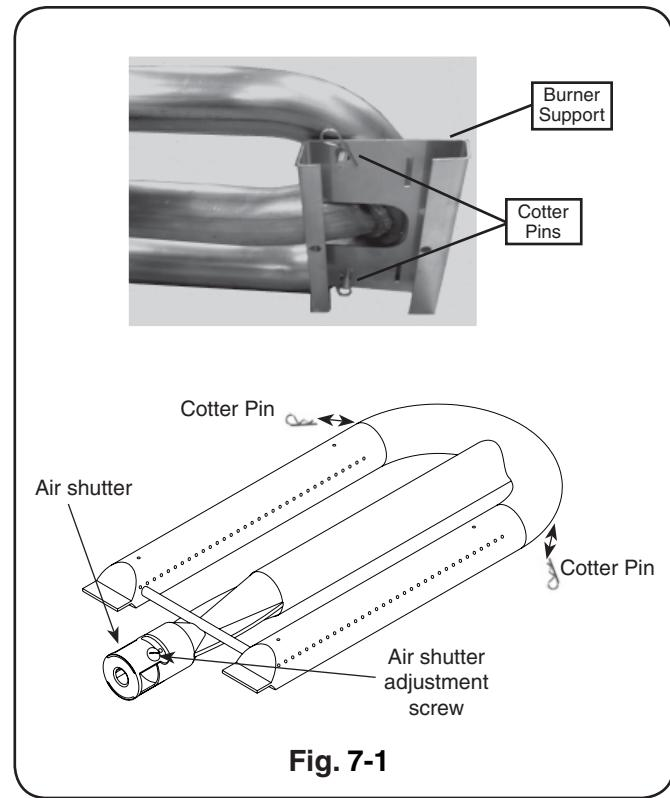

Fig. 7-1
6. Remove the burner by first removing the two (2) cotter pins from under the back of the burner lifting the back of the burner up out of the fire-box by grasping the back and lifting. Then continue to lift the back of the burner up while moving the whole burner back and out so that it pulls away from the orifice. Retain the cotter pins. (see Fig. 7-1)
8. Replace the burner by first sliding the round end over the new orifice and then lowering the back end of the burner onto the burner rest so that the two (2) threaded studs on the bottom of the burner fit into the two (2) holes in the top of the burner rest. Then slip one of the two (2) cotter pins from step 6 around each studs.